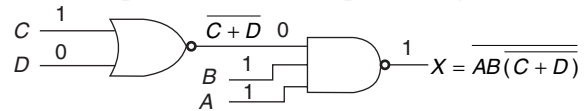

Fig. 4.87
15. Change the NOR gate of Fig. 4.87 to a NAND gate and change the NAND gate to a NOR. What is the new expression for X ?